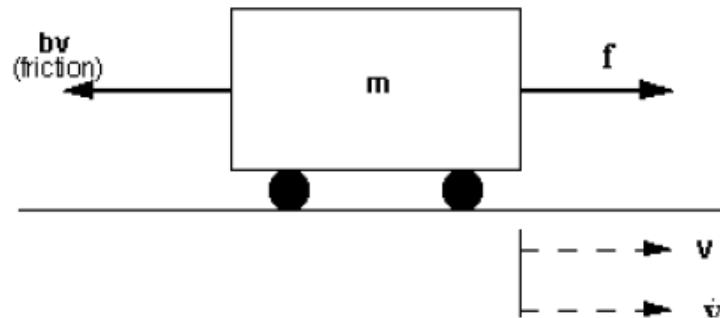

Figure 1.1
1. In this problem, we develop a simple model of an automobile cruise control system. The control objective is to maintain a speed preset by the driver. If we Figure 2.18. Mass and damper system neglect the inertia of the wheels, and assume that friction (which is proportional to the car's speed) is what is opposing the motion of the car, then the plant description is reduced to the simple mass and damper system shown in Figure 1.1.